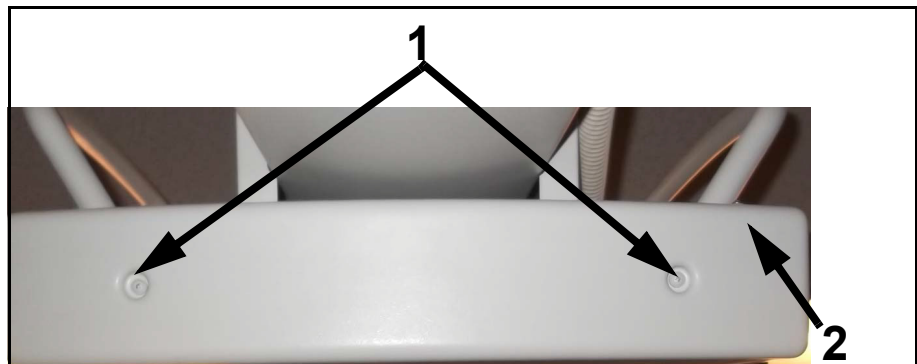

Figure 6-22. Bottom Cover Screws
- 5 Unscrew the two bottom cover screws (1 in Figure 6-22) and remove the bottom cover (2).